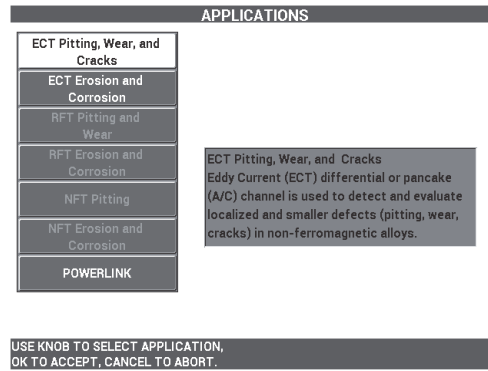

Figure 5-158 The ECT Pitting, Wear, and Cracks application
- Select **CONTINUE** (press the A key) to open the application selection menu, and then use the knob to select **ECT Pitting, Wear, and Cracks**, and press ✓ to accept (see Figure 5-158 on page 240).